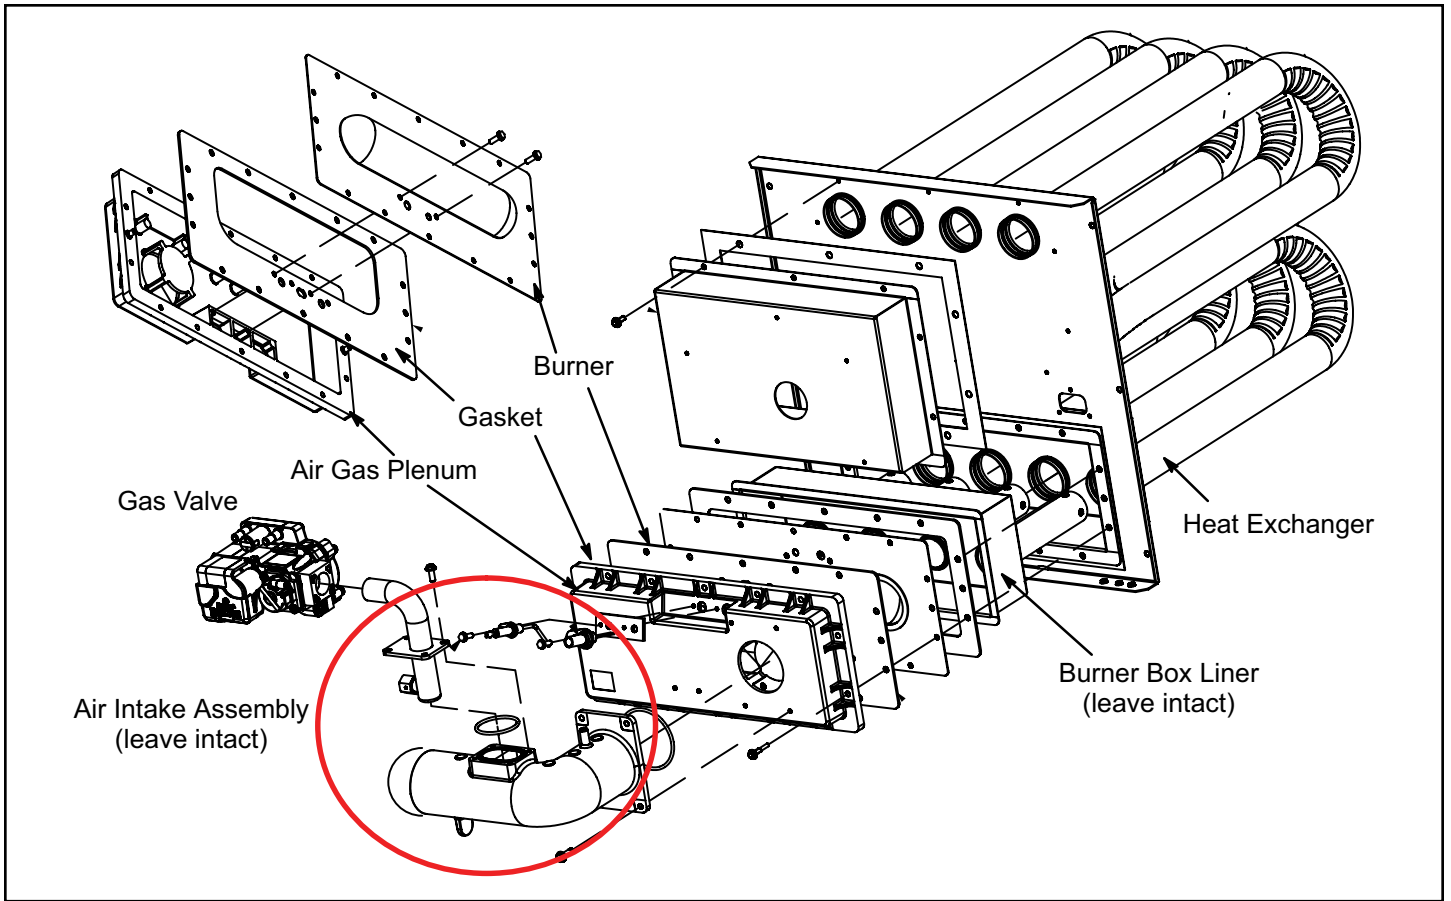

Figure 22. Burner, C.A.I. Assembly & Heat Exchanger Removal
9. To clean burner, remove from the air gas plenum and run a vacuum cleaner over the face of burner. Visually inspect inside the burner for any blockage caused by foreign matter. Remove any blockage. Figure 22 shows burner detail. Replace gasket between burner plate and air fuel plenum then re-install burner plate.